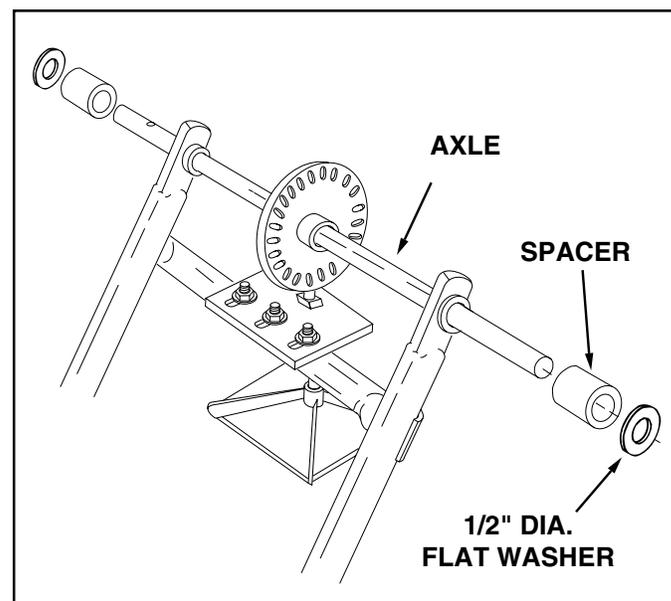

FIGURE 5
8. Assemble a spacer and then a 1/2" flat washer onto each end of the axle. See figure 5.